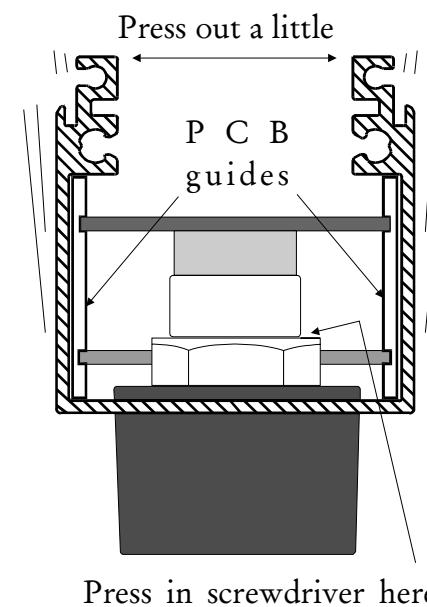

Fig. 5: Front profile shown from ADJUST end.
6. Pull off the ADJUST knob by hand or work it loose with a small screw driver. Place the screw driver in the gap between big nut and encoder, see fig. 5.
8. At the end with ADJUST, pull out the two white front board guides. Opening up the profile a little will lighten the pressure at the guides, see fig. 5.